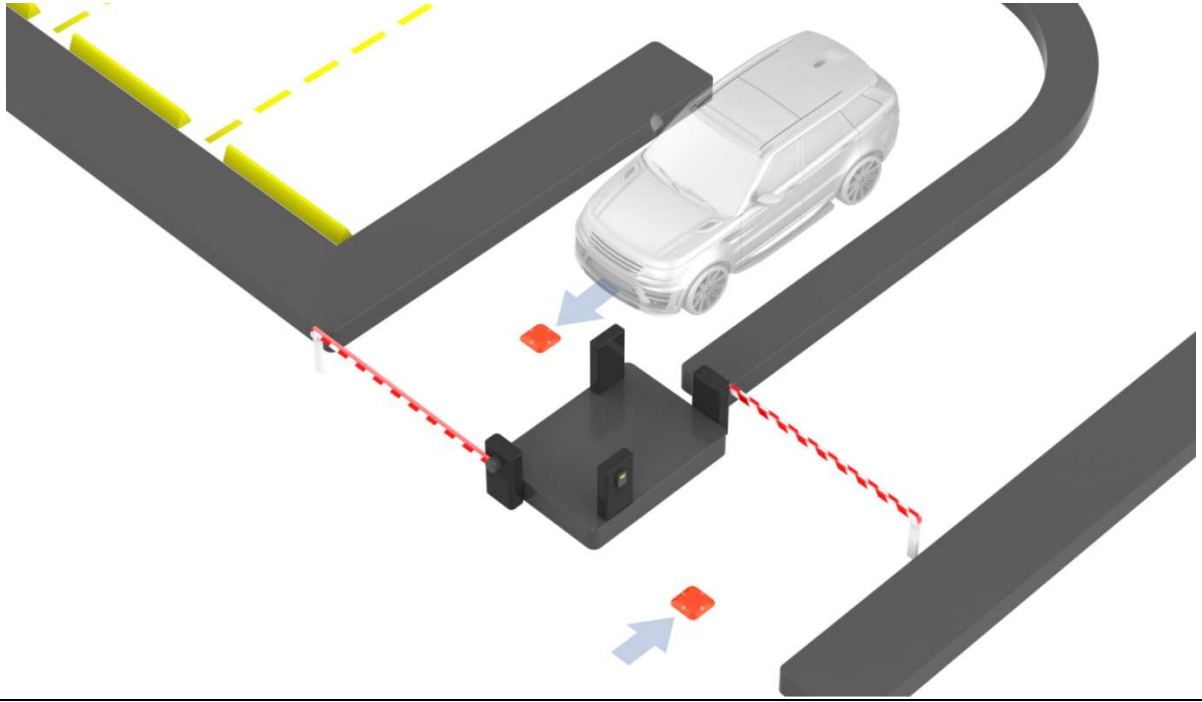
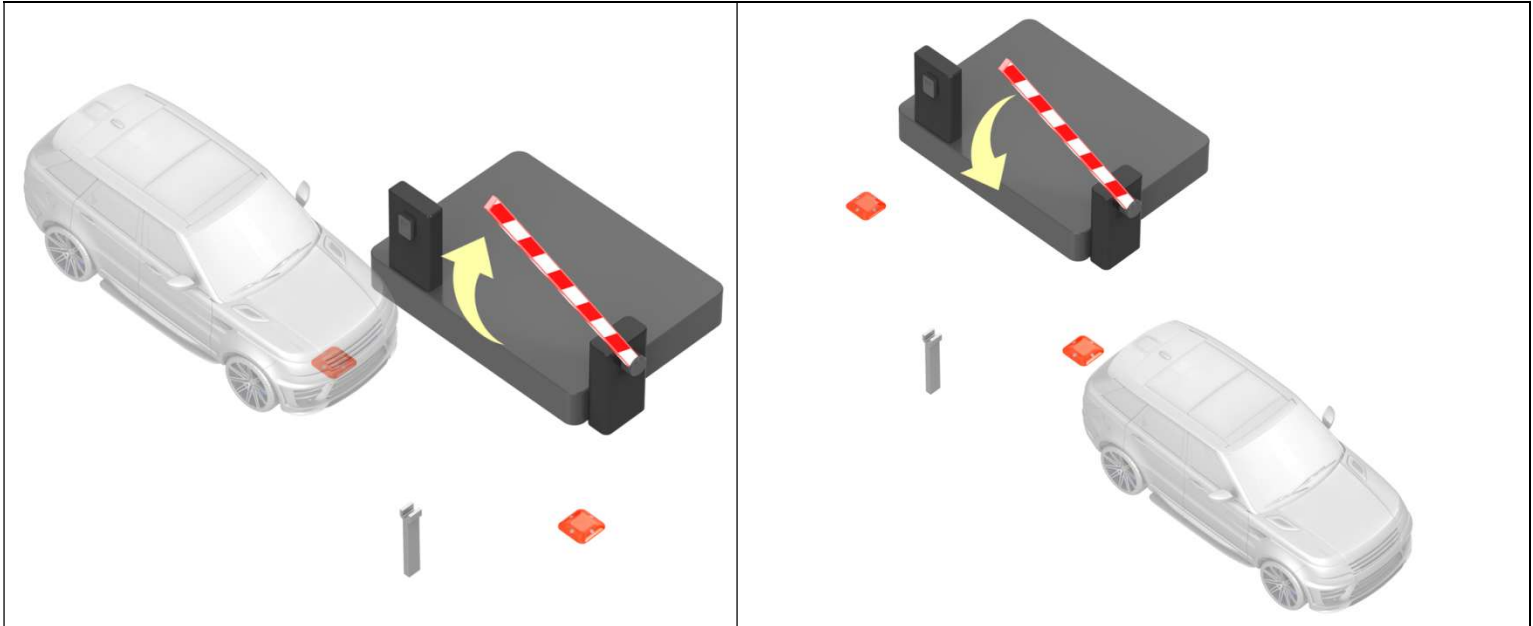

Figure 1 - Normal Mode
Figure 2 - Serial Mode
This menu is used to teach a sensor (TS/KS) to the control card (TC). Firstly, a way is selected and maximum of 2 transmitter sensors can be registered on this way. A total of 8 sensors can be taught in 4 different ways. To activate the learning mode of the control card, first a way is selected, for example **WAY1**, then the sensor is selected (**1.SENSOR/OPEN**) and when the control card enters the learning mode; the buzzer on the card will beep for 15 seconds and "**SENSOR DATA WAIT**" will appear on the screen. During this period, if you want to save the sensor as **SENSOR1** to the receiver for the first time, press and release the button on the TS card once. If you have previously taught the sensor to a receiver, this time you need to approach a metal object to the sensor and pull the metal object over it. The sensor will send learning data and when the control card learns this sensor, the buzzer will beep 3-4 times quickly (on/off). This will complete the registration process. You can then continue the process by registering as many sensors as you need. For example, user who wants to use the system in serial mode (Figure 2) by using a second transmitter sensor to be placed on the same way must select **WAY1** again and this time register in the **2.SENSOR/CLOSE** section. Thus, the user will be able to use the product in serial mode. However, in the same learning system, user who wants to operate one transmitter sensor at the entrance and the other at the exit (Figure 1) will select **WAY2** after **WAY1** and select **1.SENSOR/OPEN** and complete the same teaching process here as well. In this way, a single control card (TC) will be able to control both entrance and exit.
In normal mode, there is only one sensor in the same road, while in serial mode there are two sensors on the road. **Figure 1** shows the normal mode, and **Figure 2** shows the sensor placement in serial mode.